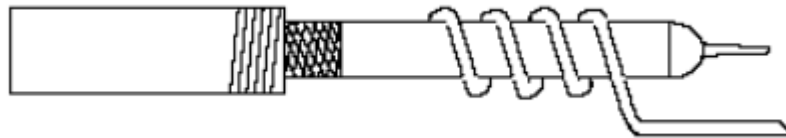

Figure 3. Recommended probe configuration.
- Use a balanced impedance probe tip across C_{OUT} to measure V_{OUT} Ripple to avoid noise coupling into the probe ground lead. The recommended probe configuration is shown in Figure 3.